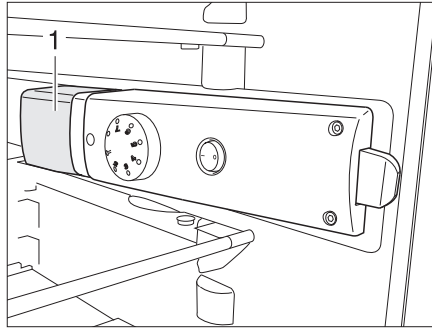

Fig. 370 Refrigerator light
- Grip under the light covering (Fig. 370,1) from behind and raise the light covering approximately 3 mm.